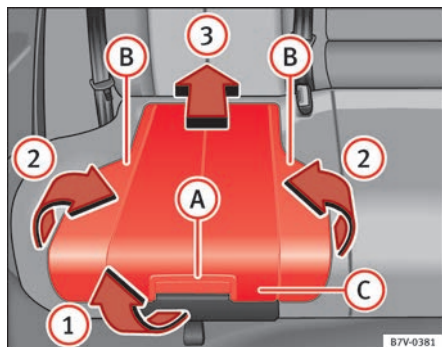

Fig. 29 Integrated child seats, lift up the cushion.
- Pull the unlock lever  $\Rightarrow$  fig. 29 **A** on the cushion in the direction of the arrow **1**.